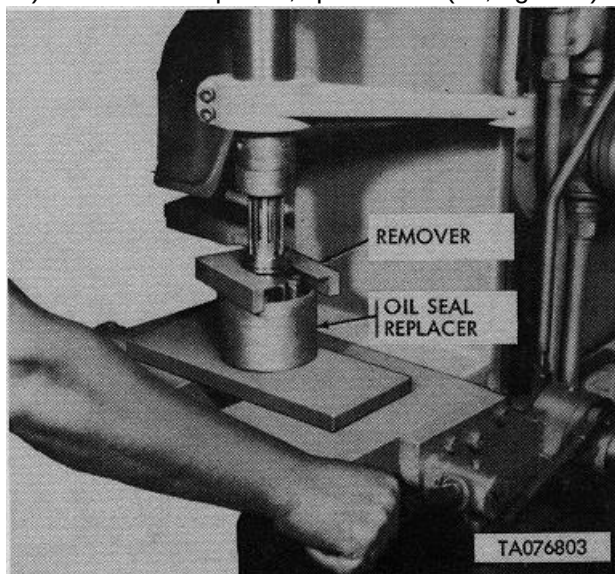

Figure 4-26. Gear Bearing Removal Using Remover with Oil Seal Replacer
- (c) Remove eight capscrews (17), three capscrews (9), eight safety nuts (40), eleven flat washers (8), and eight flat washers (39). Separate housing (7) and cover assembly (2). Discard gasket (6).
- (d) Remove seal (1) and bearing (36) from cover (2).
- (e) Remove bearing (2C) from cover (2).
- (f) Remove pinion gear (4). Press roller bearings (3 and 10) from pinion gear (4) using remover, special tool (19, fig. 1-2) and oil seal replacer, special tool (40, fig. 1-2). Refer to figure 4-26.